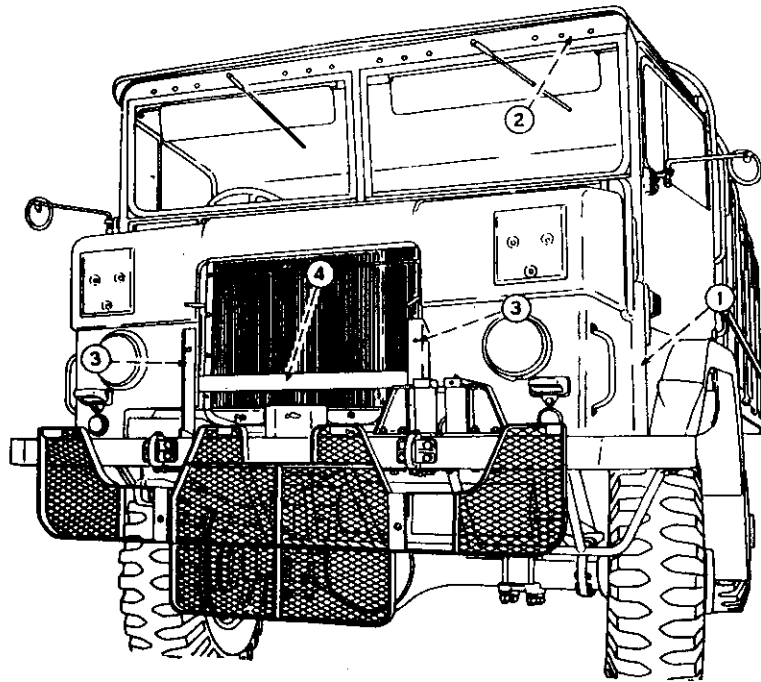

FIG 18 - CAB FRONT END REMOVAL
g. Unclip three clips which secure the horn-to-steering-column cable to the front end crossmember (item 4, fig 18).
- t. Remove eight capscrews from each side flange (item 1, fig 18) and ten capscrews from the top mounting flange (item 2, fig 18).
- u. Remove the two brush guard attaching pillars (item 3, fig 18) and the front bumper bar.